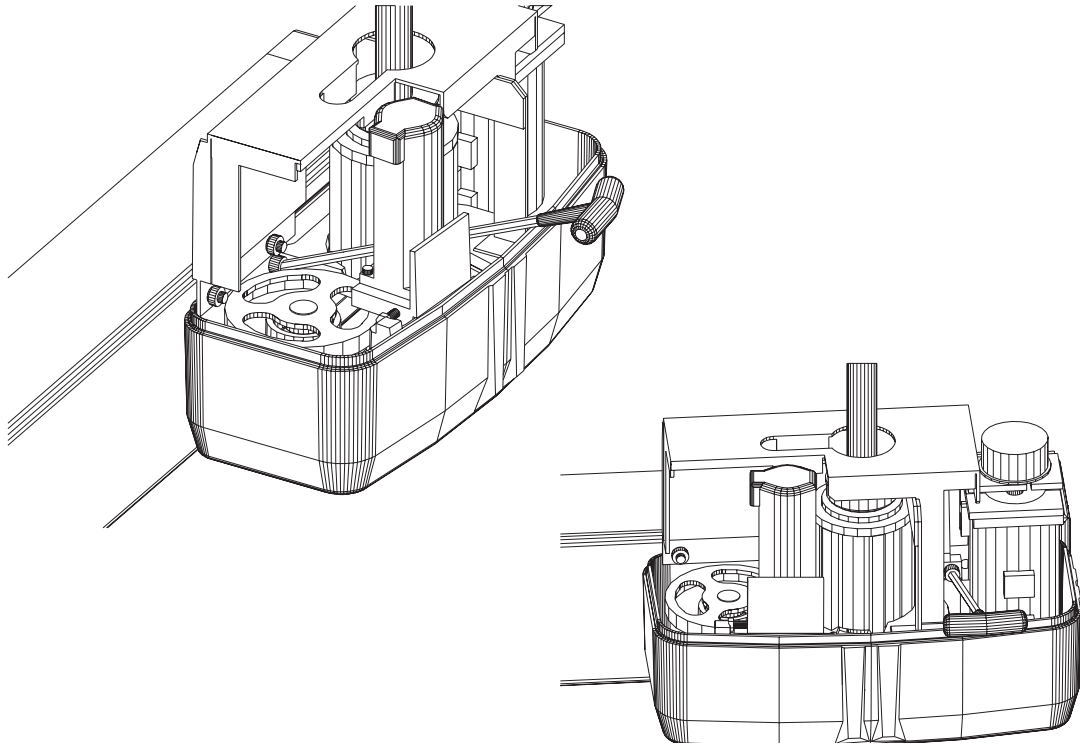
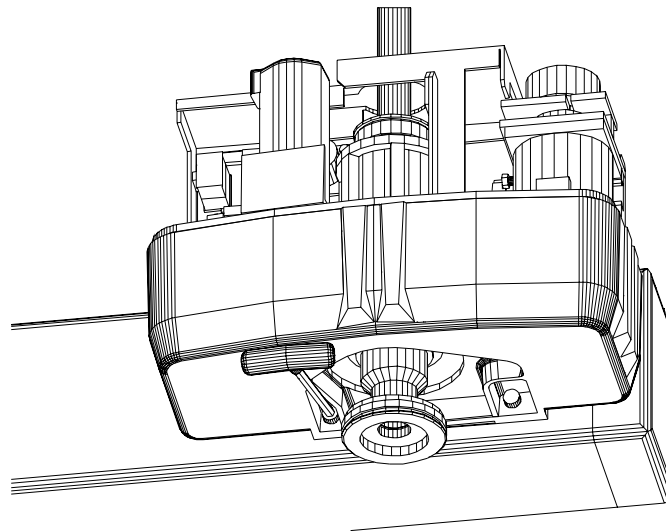

Figure 6-7. Z-Theta Mounting, Top Left, and Right Screws with Top Cover Removed
Figure 6-8. Attaching the Z-Theta to the Y-Axis
1. Attach the unit to the M-Module slider with four M6 screws using an extended-length Hex wrench with a ball point as shown in Figure 6-7 and Figure 6-8.